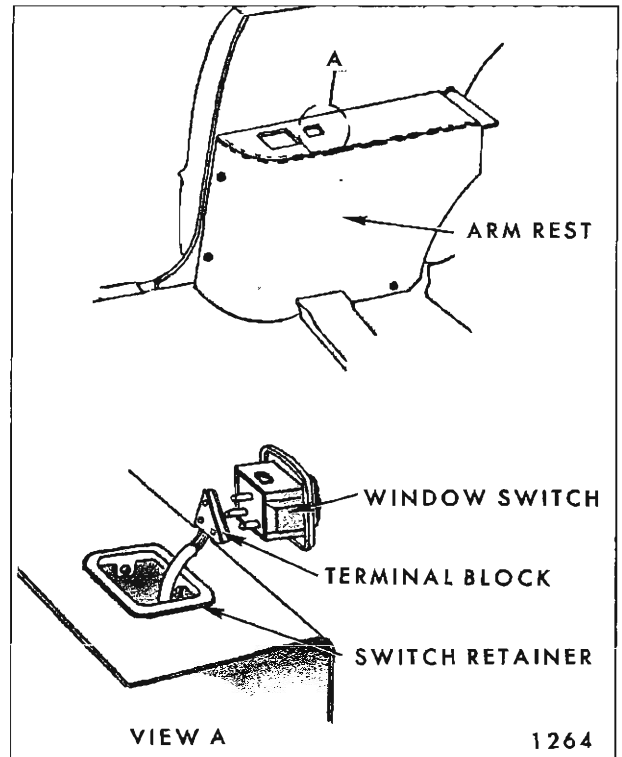

Fig. 14-25—Rear Quarter Arm Rest Window Switch Assembly
g. On styles with other electrical devices in arm rest assembly, carefully detach arm rest from rear quarter inner panel sufficiently to disconnect wire harness connectors. Figures 14-25 and 14-26 are typical of electrical installation in rear quarter arm rests. Lift arm rest in an upward, inboard movement and remove